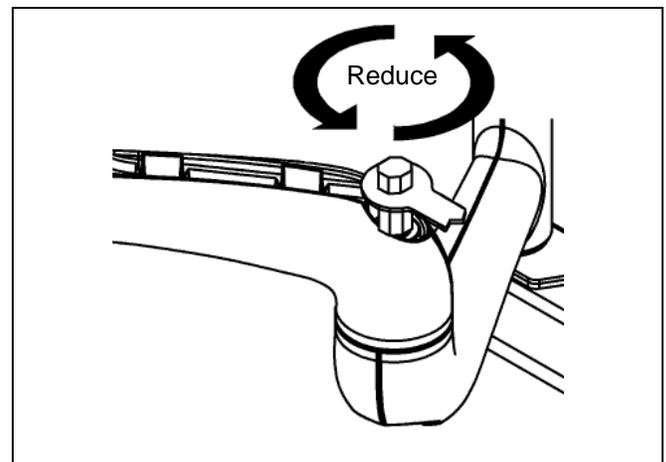
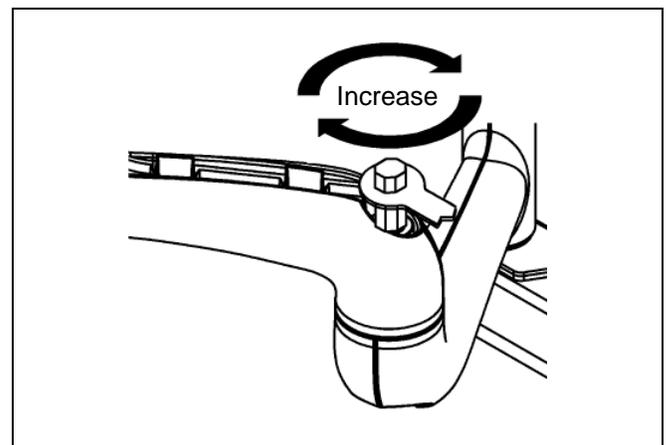

Figure 16: Reduce Swing Arm Tension
Figure 17: Increase Swing Arm Tension
3. Using the wrench provided with the mount, turn adjustment bar clockwise to increase swing arm tension or counterclockwise to reduce swing arm tension. (See figure 16) and (See figure 17)